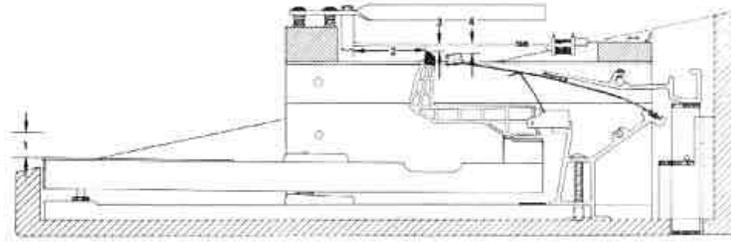

Figure 4-1. RHODES Modular Action - Single Key Depressed
1. **Key Dip.** The distance of downward travel of the Key Front (Figure 4-1, 1) is called "Key Dip." This dimension should be  $3/8" \pm 1/32"$ , that is, from  $11/32"$  to  $13/32"$  (9.525 ± 0.794mm or 8.731mm to 10.319mm).
2. **Escapement.** The gap remaining between the Hammer Tip and the Tine (Figure 4-1, 3) with the Key depressed is called "Escapement". This Dimension varies from the extreme Bass (left) Tone Bar to the extreme Treble (right) Tone Bar and should be as follows (Figure 4-2).
- 3. **Damper Clearance.** Although the Bridle Strap is part of the Hammer Assembly, it functions as an integral part of the Damper System. It is designed to engage a 'Hook' which is formed into the arm of the Damper Module at approximately its mid-point. As the Hammer swings upward, the Bridle Strap pulls the Damper Arm downward thus disengaging the Damper Felt from the Tine. As the Hammer Tip strikes the Tine, the Damper is at the point of maximum Clearance (Figure 4-1, 4) allowing the Tine to vibrate unimpeded. Damper Clearance should be 3/8" to 1/2" (9.525mm to 12.700mm).
and the leading edge of the Tone Generator (Figure 4-1, 2). This dimension should be taken at the extreme Bass (left) Tone Bar. At the extreme Treble (right) Tone Bar, this dimension is approximately 1/8" (3.175mm).